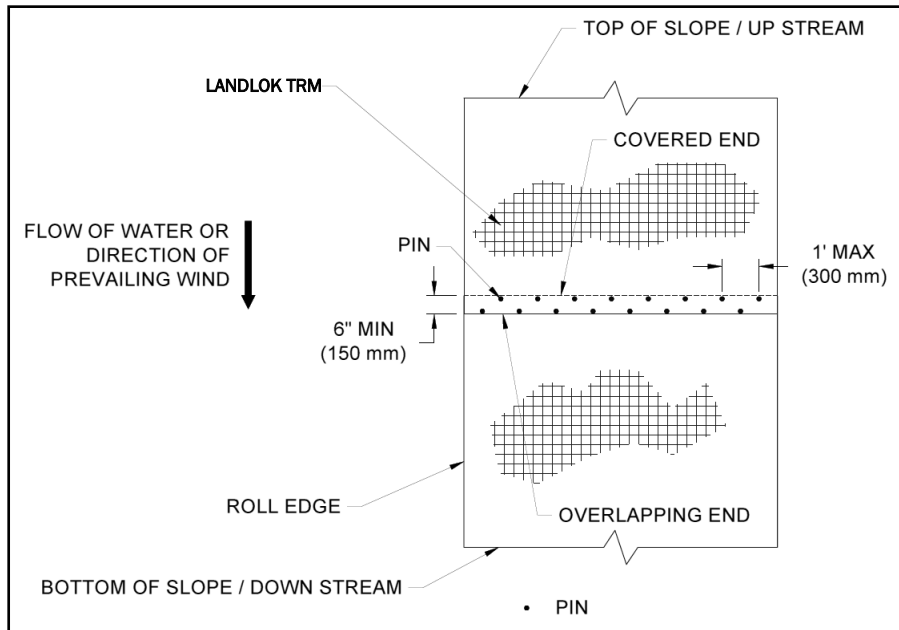

Figure 9: Roll End Overlap
- Roll ends shall be overlapped a minimum of 6 in (150 mm) with upstream / upwind panel on top. Secure roll end overlaps with two rows of pins staggered 6 in (150 mm) apart on 12 in (300 mm) centers (Figure 9)